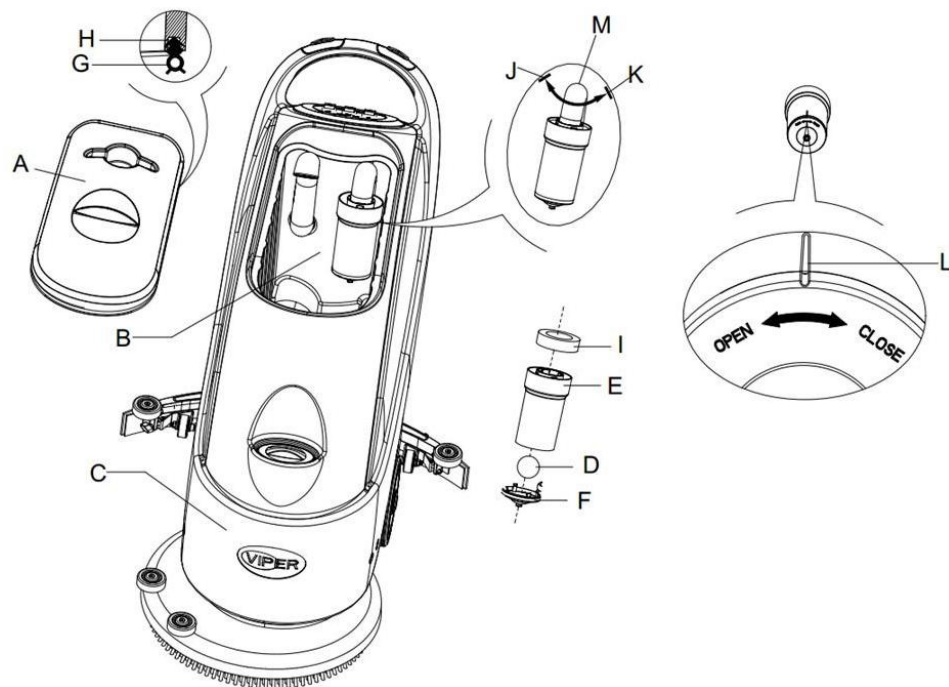

Figure 16
1. Press the power switch (41) to the position "O" to turn off the machine.
2. Open recovery tank lid (A, Figure 16), and take off the float device (36) from recovery tank.
3. Use pure water to clean recovery tank lid (A), the tank (B and C), and the float filter support frame (E). Through the Recovery tube (15), drain all the water from the water tank.
5. If necessary, following the symbols "Open" and "Close" as shown in Figure 16, open the bottom lid (F) of the float filter and clean the float (D), float filter support frame (E), and the filter sponge (I). After cleaning, fix the float onto the float filter support frame (E), and then align the mark groove (L) of the bottom lid (F) of the float filter with the mark groove (L) of the float filter support frame (E). Turn the bottom lid (F) of the float filter tight, and fix the filter sponge (I) onto the float filter support frame (E), and then onto the Vacuum tube (M).
6. Check the soundness of the sealing ring (G) of the water tank lid.
If necessary, the sealing strip of the water tank (G) may be taken out from the groove (H) and changed. When assembling a new water tank sealing strip, as shown in Figure 16 below, install the connector to the middle section of the rear part.
7. Check if the receiving surface of the sealing strip (G) is intact and seals adequately.
8. Close recovery tank lid (A).